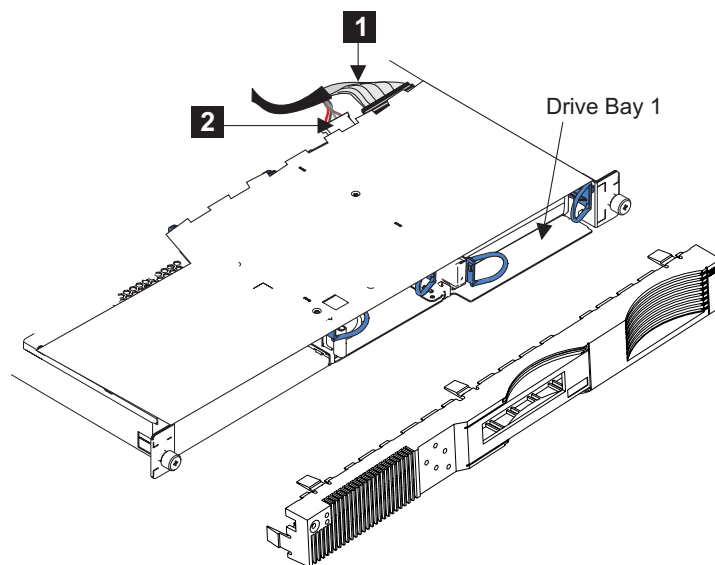

Figure 91. Removing the SAN Volume Controller 2145-4F2 disk drive cables
4. Disconnect the SCSI signal connector **1** and the power connector **2** from the back of the disk drive, and then remove the cable. See Figure 91.